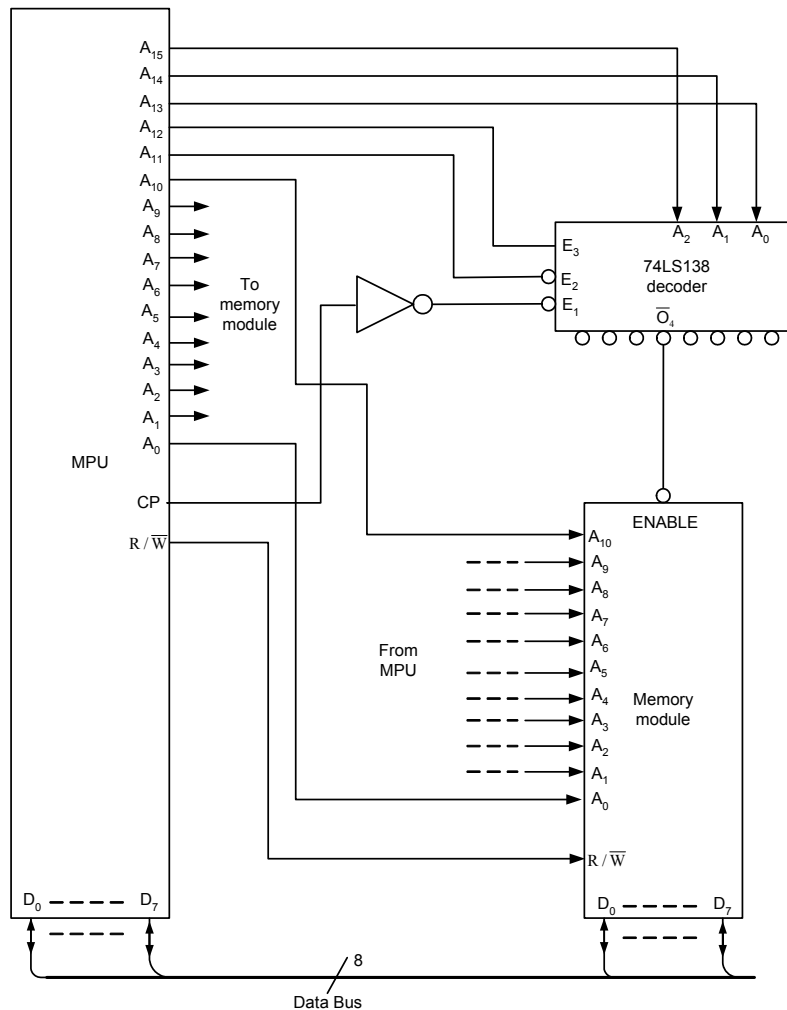

Figure 4
5. Figure 4 shows the basic circuitry to interface a microprocessor (MPU) to a memory module. The memory module will contain one or more memory ICs that can either receive data from the MPU (a WRITE operation) or send data to the MPU (a READ operation). The data are transferred over the eight-line data bus. The MPU's data lines and the memory's I/O data lines are connected to this common bus. For now we will be concerned with how the MPU controls the selection of the memory module for a READ or WRITE operation.